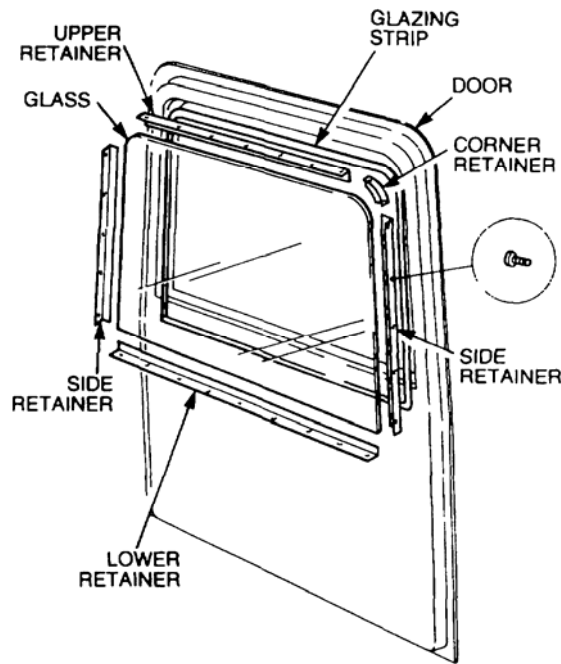

Figure 14 Rear Door Glass Removal
- Remove the retainer (refer Figure 14).
- c. Install a new glazing strip, (refer Figure 14), on the inside of the window.